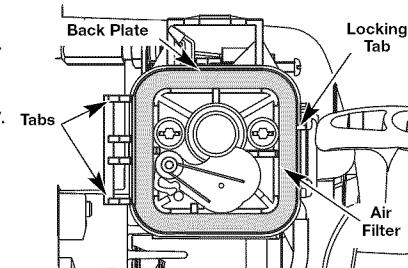

Fig. 16
2. Remove the air filter (Fig. 16).
6. Replace the filter (Fig. 16).
7. Reinstall the air filter cover. Position the slots on the left side of the air filter cover onto the tabs on the right side of the back plate (Figs. 16).